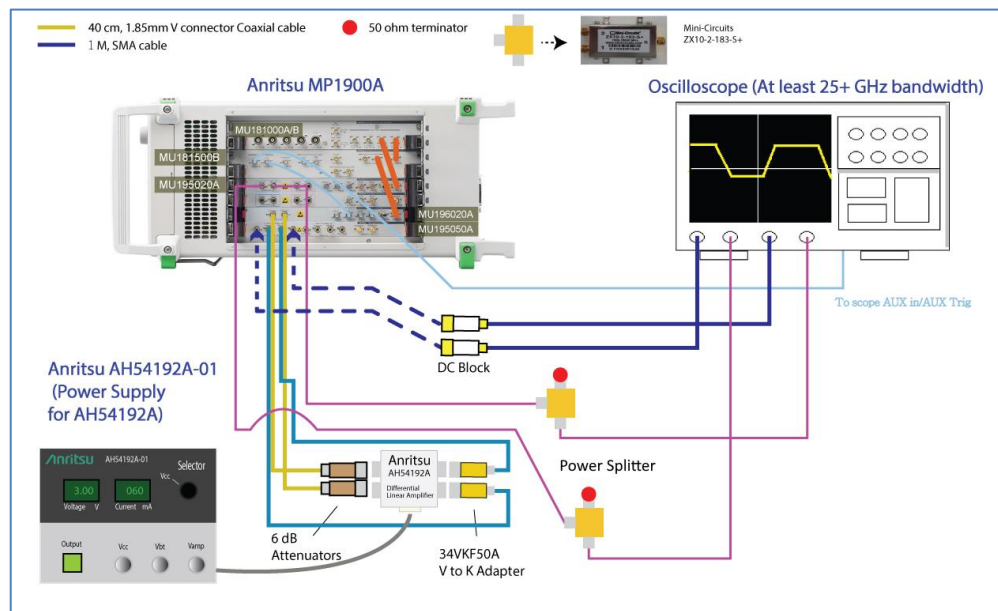

FIGURE 72. TEST SETUP FOR BERT ASSEMBLY STEP RESPONSE EXTRACTION
1. Connect the test setup as shown in Figure 72 below.